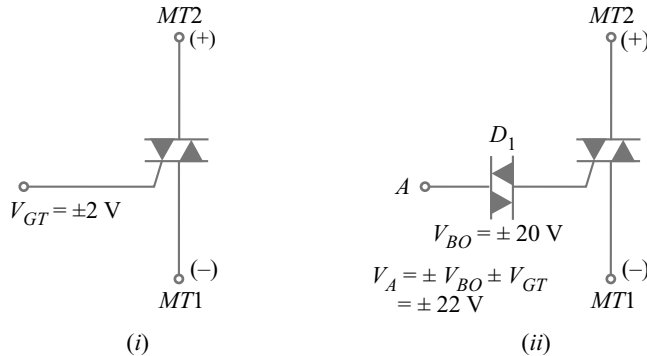

Fig. 19.23
**Solution.** The rated values of  $V_{GT}$  for triacs are generally low. For example, the triac shown in Fig. 19.23 (i) has  $V_{GT} = \pm 2V$ . However, we can raise the triggering level of the triac by using a *diac* in the gate circuit as shown in Fig. 19.23 (ii). With the diac present, the triac can still be triggered by both positive and negative gate voltages. However, to fire the triac into conduction, the potential  $V_A$  at point A in Fig. 19.23 (ii) must overcome the  $V_{BO}$  (breakover voltage) for the diac plus  $V_{GT}$  i.e